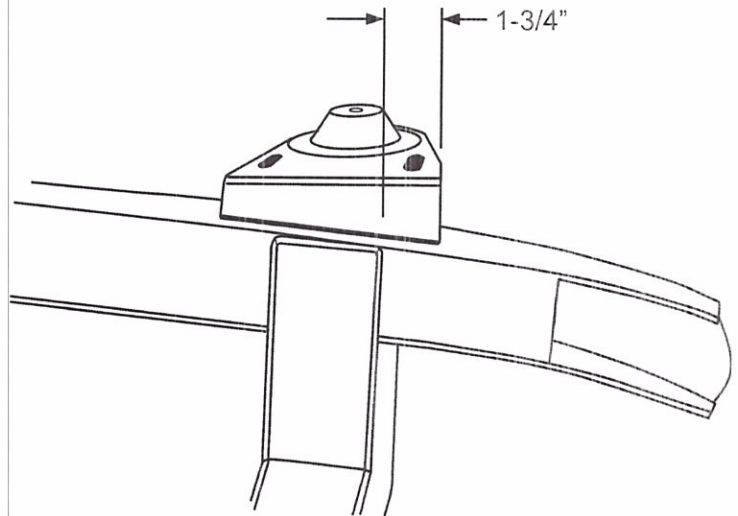

Figure 6
7. Next are the spring towers. They sit on top of the frame rails, and are located as shown in Figure 6, (1-3/4", forward of the crossmember measuring from the front of the crossmember to the front of the spring tower). Clamp in place, double check your dimensions, then weld all around, including the gusset flanges on the sides of the rails. For added strength, you can also weld the inside of the gusset flanges. (Hint: Before you install the spring towers, you can weld up and grind flush the old fender bracket holes and the one splash apron hole which are covered by the spring towers, as they will no longer be used.)